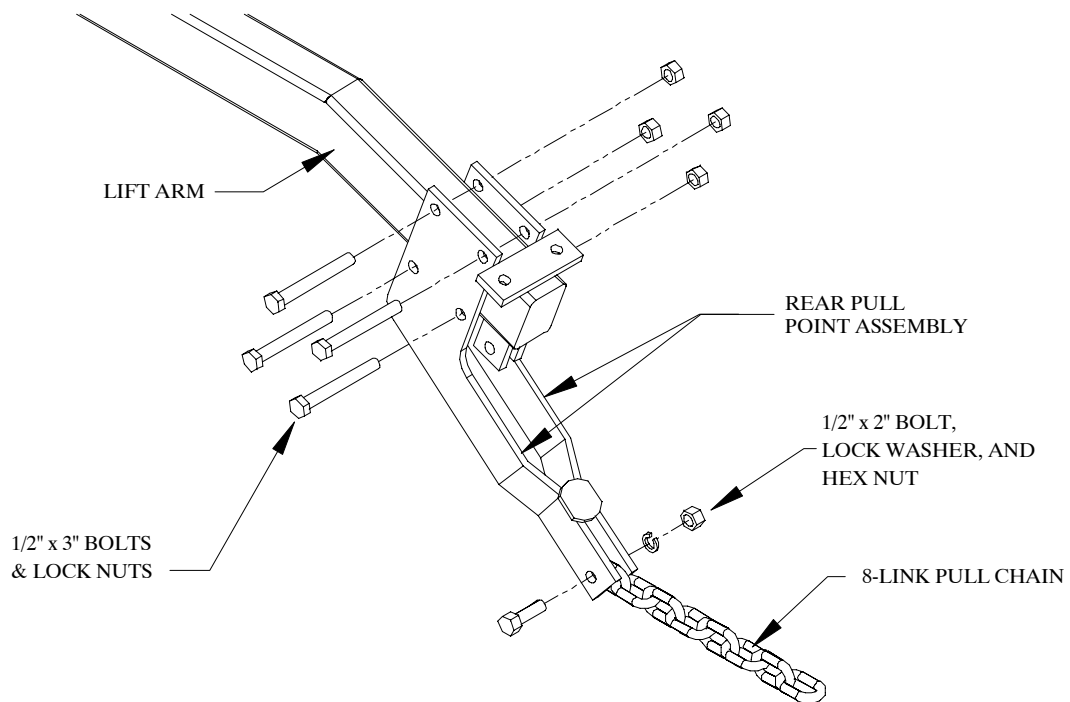

Figure 13
5. *Attach a rear pull point assembly to the rear end of each lift arm. Use four 1/2" x 3" bolts and lock nuts. Refer to Figure 13.*
6. *Bolt an 8-link pull chain to the end of the rear pull point assembly with a 1/2" x 2" bolt, lock washer, and hex nut. Refer to Figure 13. This chain will connect to the first bar of the second set of harrow sections.*